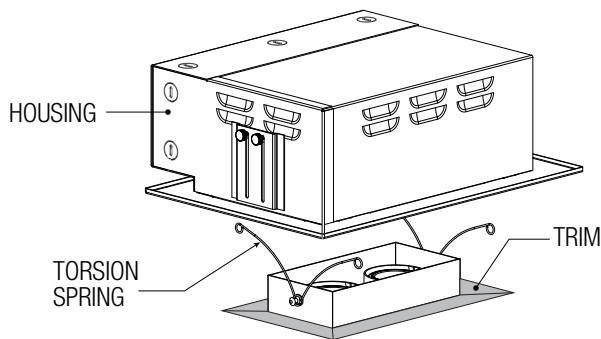

FIGURE 3
Step 1. Pull the TRIM away from the HOUSING. The TORSION SPRINGS retain the TRIM onto the HOUSING. Compress the TORSION SPRINGS on each end of the TRIM, releasing the TRIM from the HOUSING. See Fig 3.